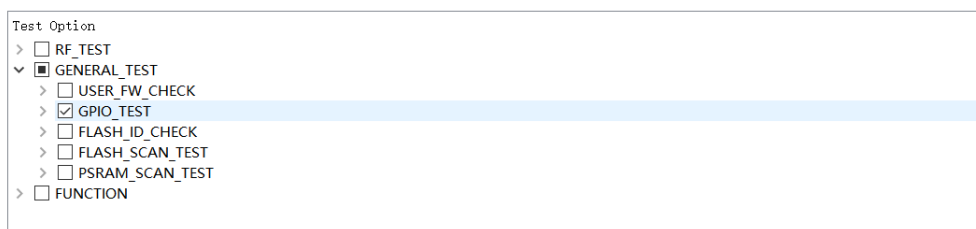

Figure 3-4. GPIO Conductivity Test
- **Configuration Interface:** As shown in Figure 3-4, you can enable this test in the **GENERAL_TEST** sub-list on the **Test Flow** tab. For details, please refer to Appendix B.